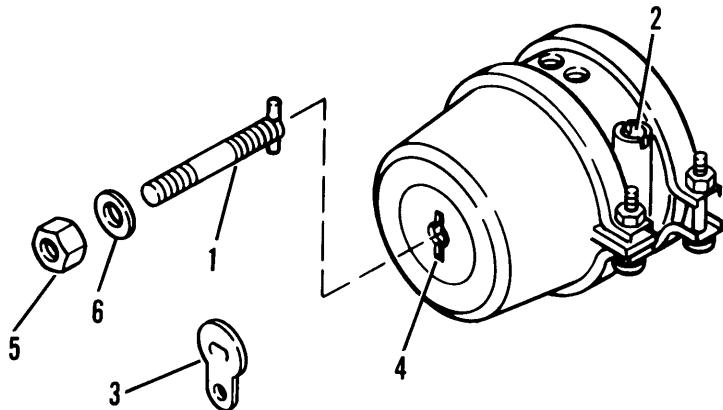

Figure 2-30. Caging Spring Brake Chamber
- b. Remove plug (3, fig. 2-30) from spring brake chamber.
- c. Remove nut (5) and washer (6). Remove spring brake tool (1) from mounting hole (2) in spring brake chamber.
- d. Insert spring brake tool (1) through opening (4) in brake chamber. Turn release tool (1) 1/4 turn clockwise to lock in manual release position.
- e. Install washer (6) and nut (5) on spring brake tool (1). Tighten until $2\frac{1}{2}$ to $2\frac{3}{4}$ inches of spring brake tool (1) is exposed.